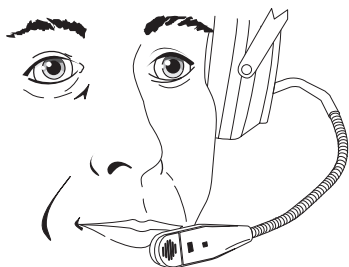

Figure 4. Microphone Placement
3. For best noise cancellation, position the microphone as close to the mouth as possible and speak in a normal voice (Figure 4).